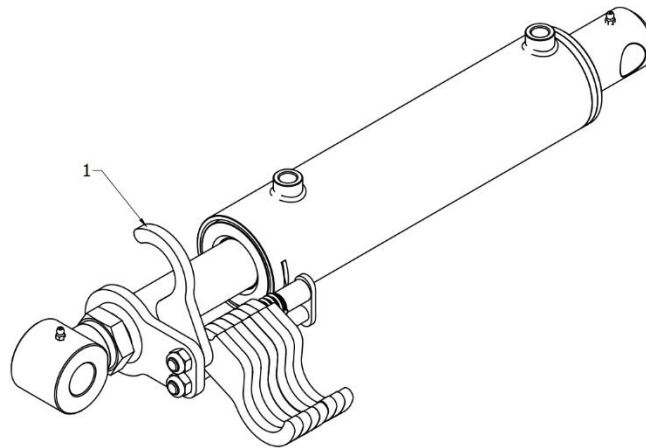

Figure 6 Correct way to put the first (1) ratchet on the piston rod of the actuator to adjust the working depth of the machine.
- In fig. 6 and fig. 7, the correct way of installing the subsequent pawl plates on the actuator and the incorrect way of installing them are shown.